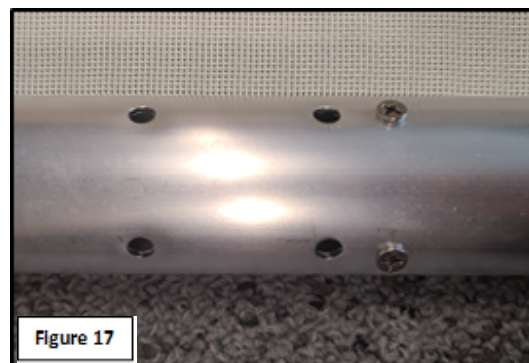

Figure 17
24. Screw the two small roller bar screws into the newly drilled holes to secure the black plastic bushing in place within the bar. See **Figure 17**.